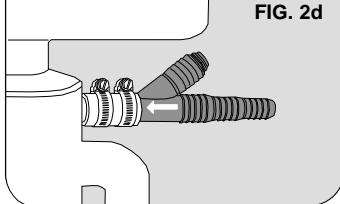

FIG. 2d
6. Point arrows of ET116-002 toward disposal and slide barbs into remaining one inch of the hose coupler until firmly seated against the disposal nipple. Orient the "wye branch" in a vertical position to receive RO drain tube. Tighten both hose clamps securely over hose coupler so that the ET116-002 is solidly mounted on disposal. (See Fig. 2d)